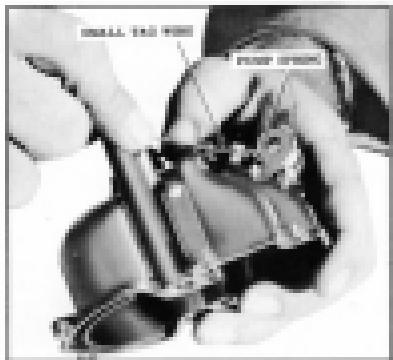

Fig. 293. Holding Pump Spring.
8. Remove pump plug and pump intake ball check valve. (See Fig. 293).